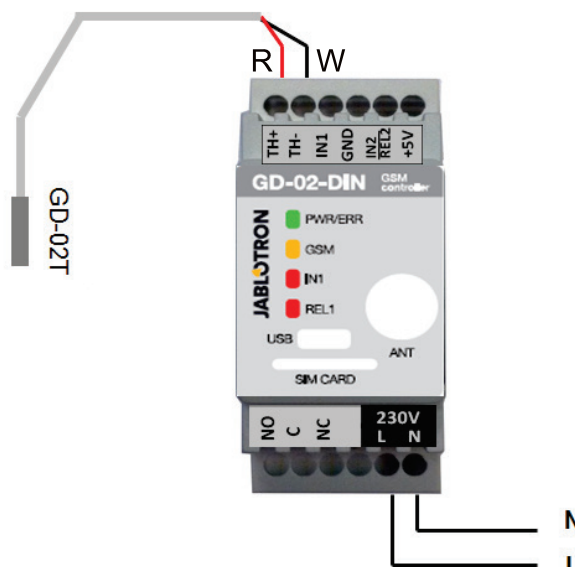

Figure 4: Measuring the temperature
- Mind the correct polarity when the digital thermo sensor is connected (red wire =TH+, white wire=TH-). See figure 4.